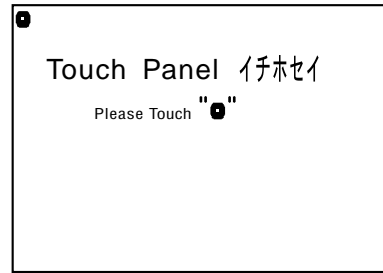

Fig.7-1-25
(The screen display will be as shown in Fig.7-1-25)
- 7) If the touch panel alignment is to be made once more by changing the direction of the LCD, press **▶||** key to display the screen shown in Fig.7-1-25, and then perform adjustment after step 3).